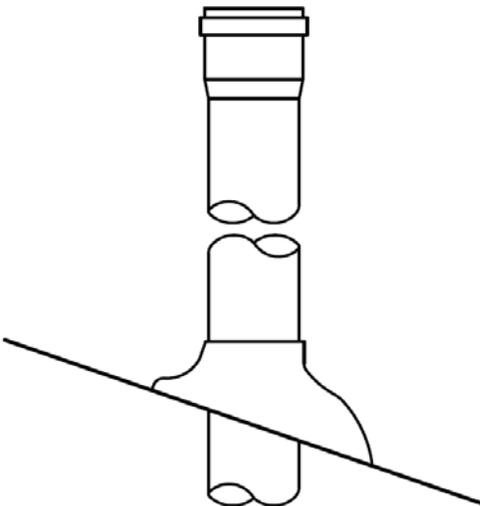

Figure 11
*Single Rigid Pipe Vertical Termination (white UV single wall pipe, Fig 11):*